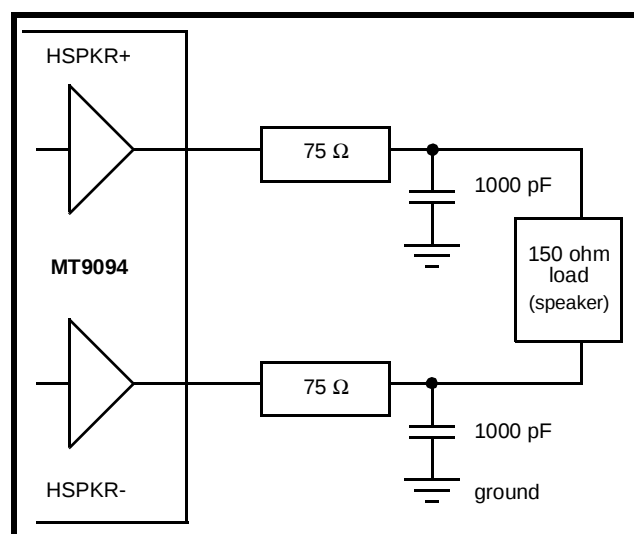

Figure 4 - Handset Speaker Driver
- ◆ The handset speaker outputs (receiver), pins HSPKR+/HSPKR-. This internally compensated, fully differential output driver is capable of driving the load shown in Figure 4. This output is enabled/disabled by the HSPKR EN bit residing in the Transducer Control Register (address 0Eh). The nominal handset receive path gain may be adjusted to either -12.3dB (suggested for μ -Law) or -9.7dB (suggested for A-Law). Control of this gain is provided by the RxA/ $\bar{u}$ control bit (General Control Register, address 0Fh). This gain adjustment is in addition to the programmable gain provided by the receive filter and DSP.